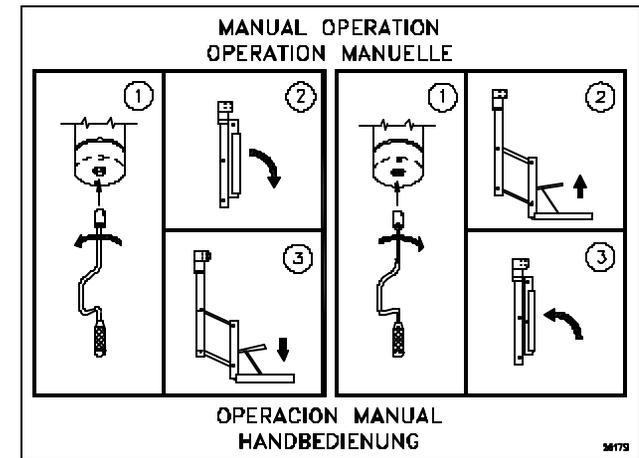

FIGURE 2-8: MANUAL OPERATION DECAL
- Refer to **Figure 2-8** and the following sections for manual operation instructions: